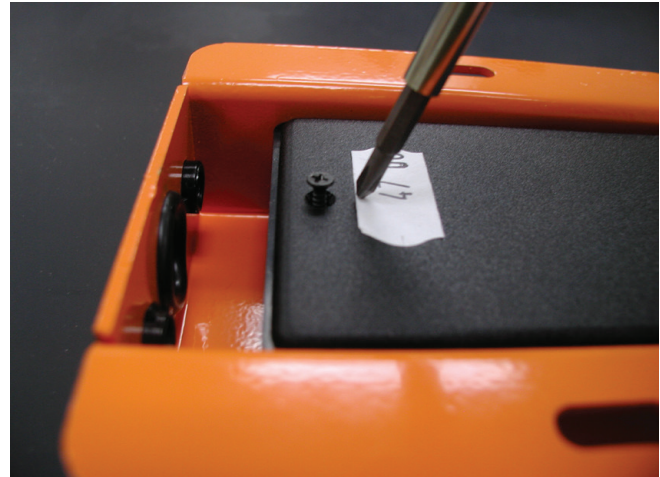

Figure 1. Removing the screw that secures the bottom cover of the unit
- Remove the screw that secures the bottom cover of the unit (see Figure 1). Set cover aside, being careful not to lose the screw. Loose plastic tie wraps may be found inside the unit, set them aside for later use to provide strain relief on cable wiring.